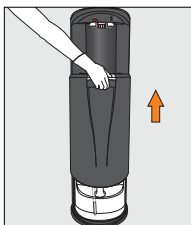

Figure 28
1. Open Dispenser Door (Figure 28). (Slide door upwards to allow access to bottle area)